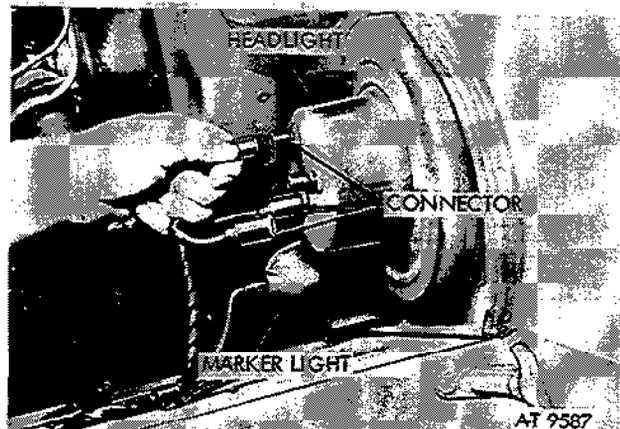

Figure 2-48. Headlight and marker light connectors.
(1) Remove headlight connectors on all models, and marker light connectors on M151, M151A1, M151A1C, and M718 models (fig. 2-48).
(1) Refer to figure 2-48 through figure 2-53. The following attaching parts are to be torqued to the values shown: